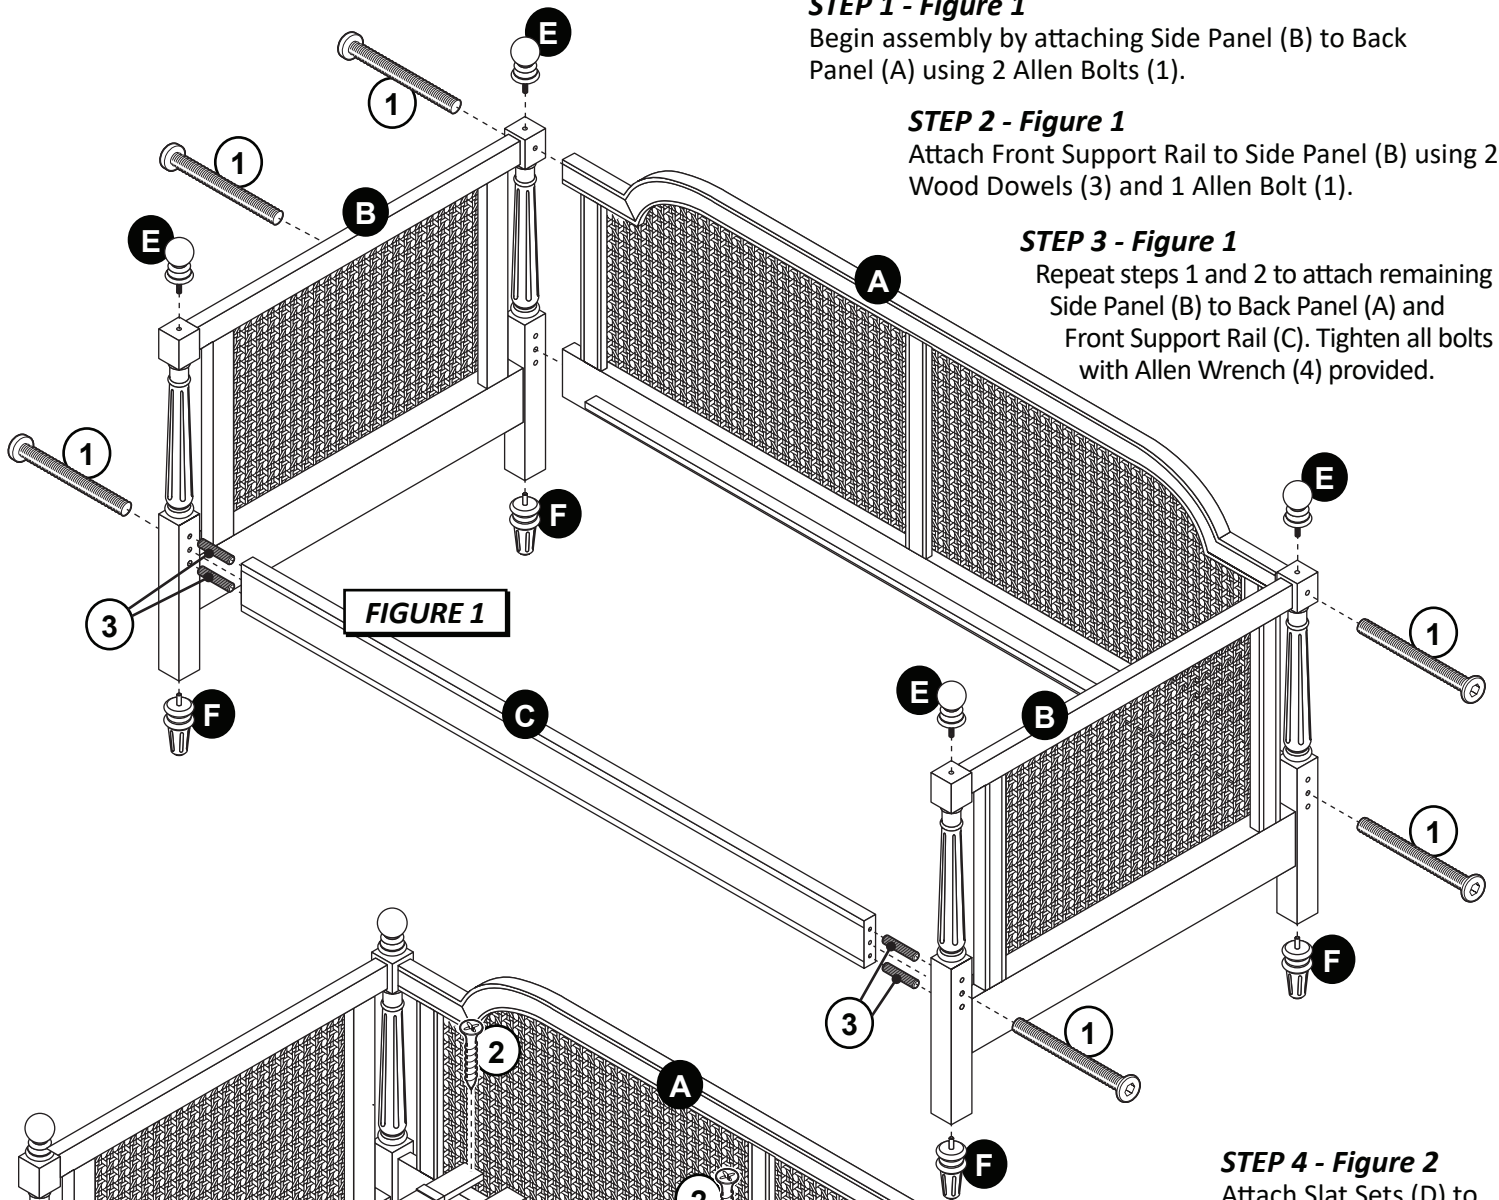

FIGURE 1
STEP 1 - Figure 1
STEP 2 - Figure 1
STEP 3 - Figure 1